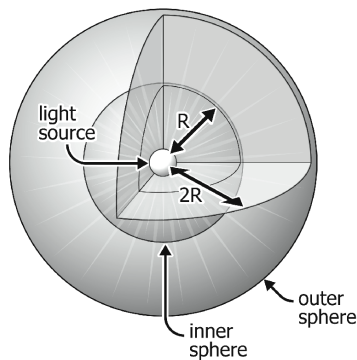

Figure 2
5. Suppose a small light source is placed at the center of two transparent spheres, as shown in Figure 2. One sphere has a radius R , and the other a radius $2R$. Energy in the form of light leaves the source at a rate P . That same power P passes through the surface of the inner sphere and reaches the outer sphere. Intensity is the power per unit area. What is the intensity at each sphere? Solve this problem by considering the following: